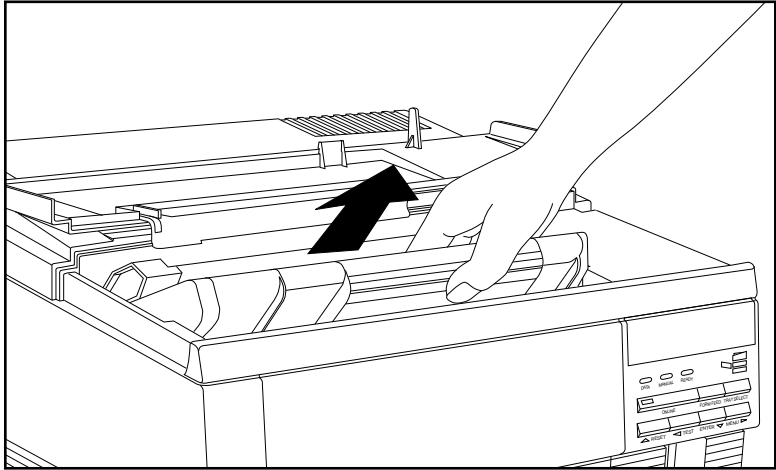

Fig. 6.10 Remove the Toner Cartridge
2. Grasp the toner cartridge by the grip area, raise that end slightly, and then pull the cartridge out of the printer (fig. 6.10).